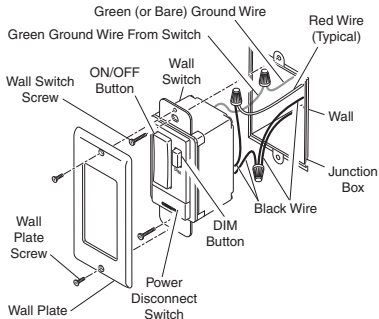

Figure 3 - Installing 3-Way Wall Switch (Transmitter Shown)
- Connect the green ground wire from transmitter to the ground wire removed from old switch. Use one of the supplied wire connectors to secure the wires (see Figure 3).
- Position the wall switch transmitter in the junction box with the DIM button located to the right. Use the two wall switch screws (long) supplied to mount the transmitter to the junction box (see Figure 3). Push excess wiring into junction box while you do this, bending the wires to fit if necessary.